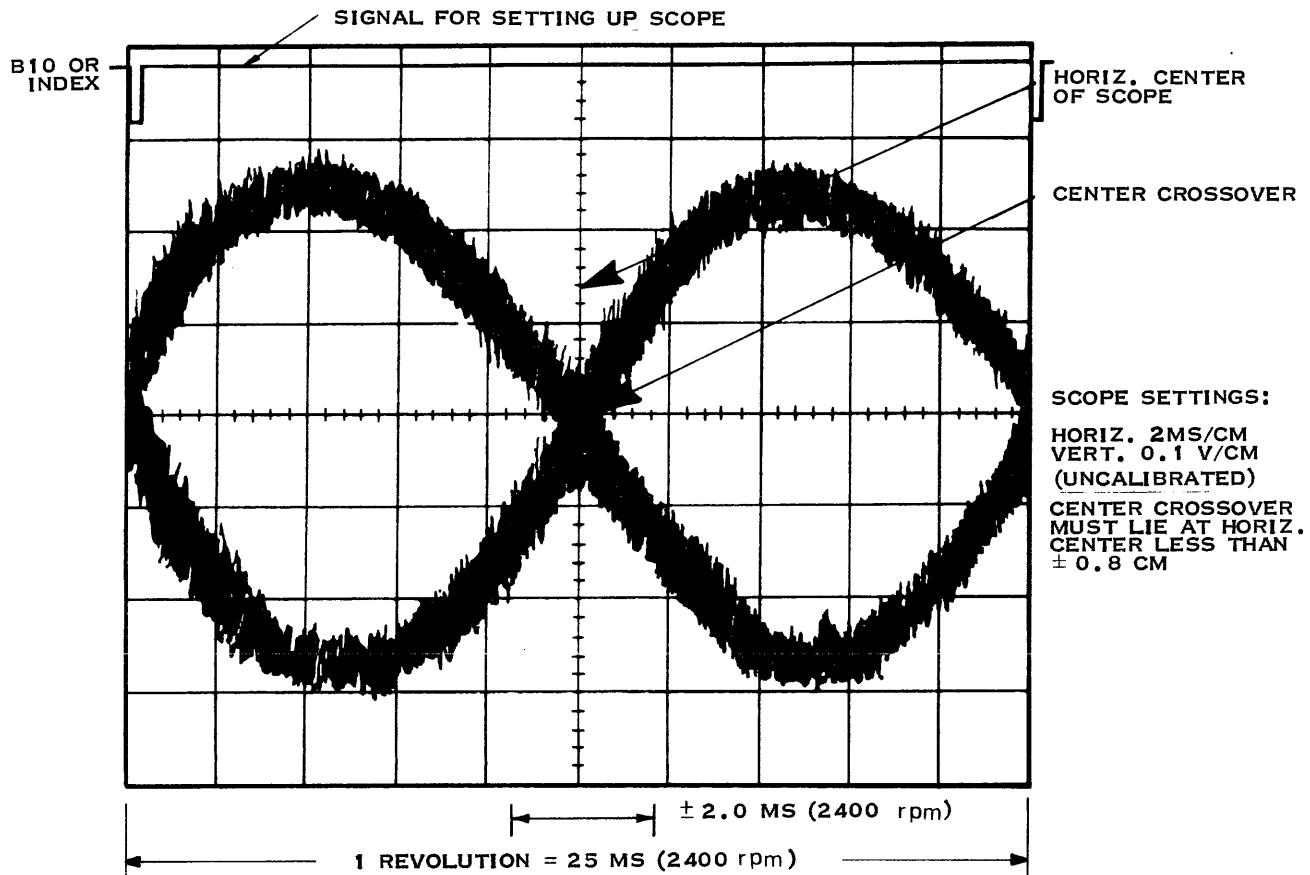

Figure 3-26. Head Alignment Waveform
17. Monitor this signal and set up oscilloscope trace to indicate one complete revolution (20 sector pulses). Use horizontal range of 2 milliseconds/cm, and use uncalibrated sweep control for final adjustment (see top of figure 3-26).
Head alignment waveform should be indicated in figure 3-26. If center crossover for both #0 and #1 are within ± 0.8 cm of horizontal center, heads need not be adjusted. If alignment is outside this tolerance, adjust heads so that center crossover is within ± 0.5 cm of horizontal center. Using the horizontal position control, move the display so that these crossovers are displayed within the 10-cm scope graticule as shown in figure 3-26. Do not change the time base established in step 17 for the remainder of the adjustment procedure.
21. Using head alignment tool, adjust head for signal shown in figure 3-26.
25. Using head alignment tool, adjust head for signal shown in figure 3-26.